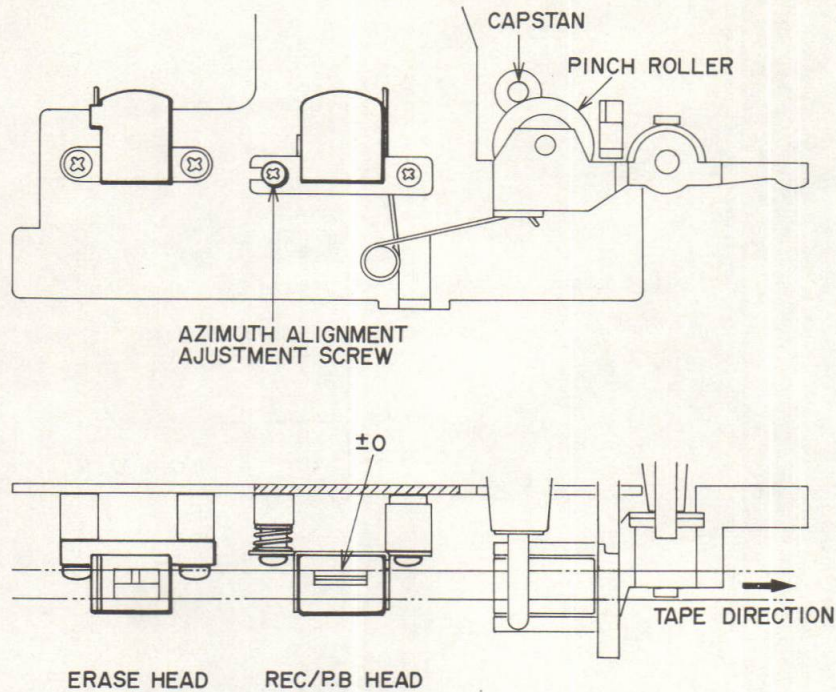

Fig. 12 Head Adjustment
AZIMUTH ALIGNMENT (Refer to Fig. 12)
- Playback a 10 kHz pre-recorded cassette azimuth alignment test tape and adjust screw shown in Fig. 12 to obtain maximum output on both channels.